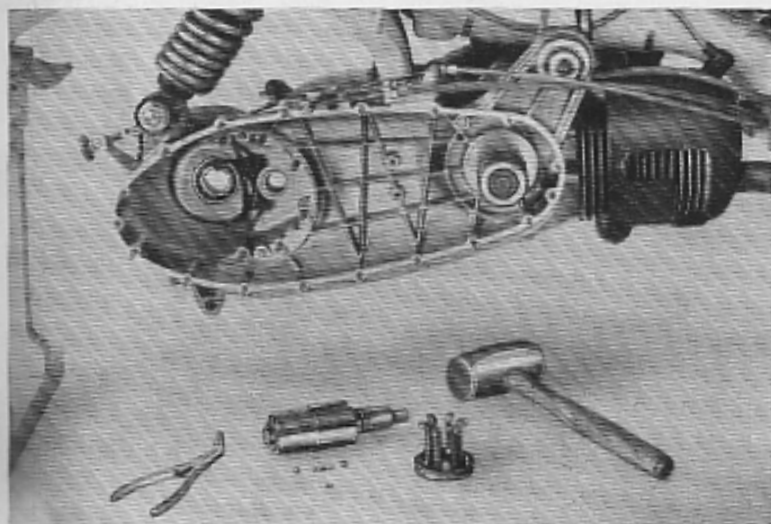

Fig. 13
- 18 Withdraw selector cursor ring from shaft, taking care not to loose the two balls and the spring. See Fig. 13.